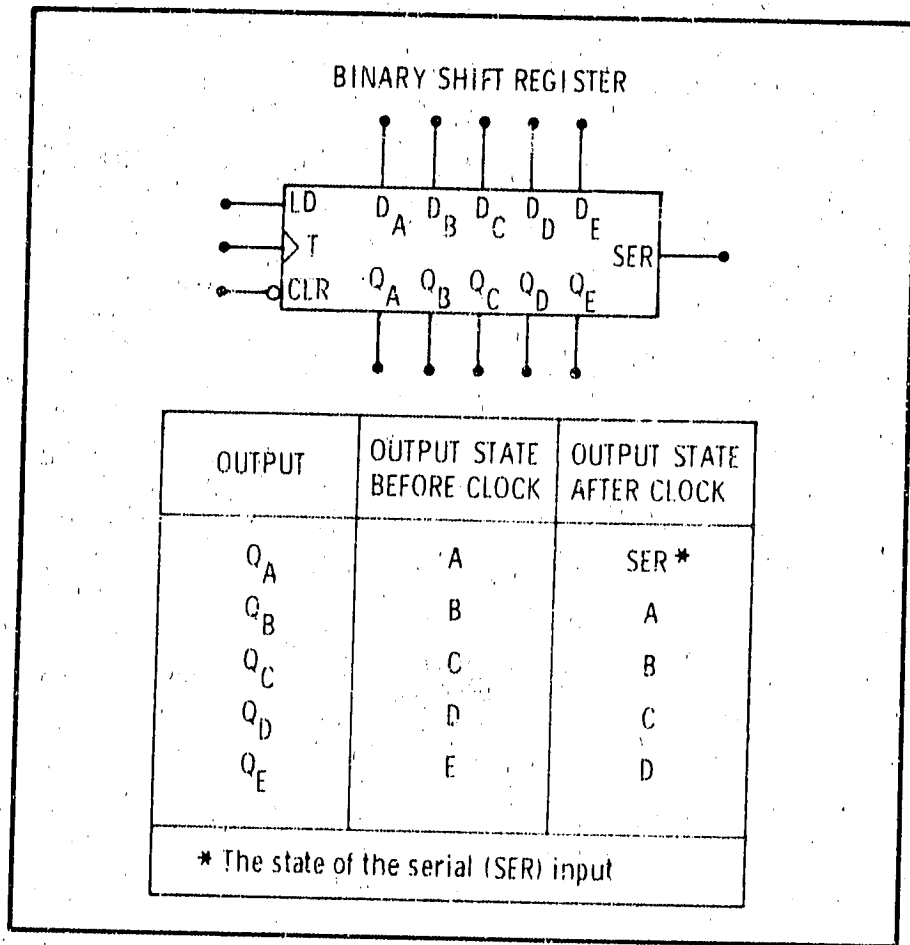

Figure 8-11. Binary Shift Register
8-56. **Binary Shift Register.** A five bit binary shift register is shown in Figure 8-11. Information at the data (D_n)¹ inputs is transferred to the respective Q_n ¹ outputs when the load (LD) input is high. The load input is independent of the clock (T) input.